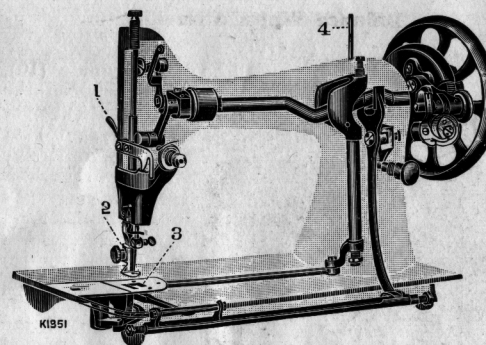

Fig. 4.
Tighten the balance wheel, and after placing a piece of material under the presser foot (2, Fig. 4) **turn the handle from you** with an easy and regular motion. Continue to do this until you are able to guide the material correctly with the left hand.
When familiar with the working movement, tighten the balance wheel by turning the stop motion screw from you, and place a piece of calico or cloth under the presser foot (2, Fig. 4). Lower the presser foot upon the material by means of the presser bar lifter (1, Fig. 4) and again work the machine, without it being threaded, until you have become accustomed to guiding the material.
**Skip Stitches.**—A bent or blunt-pointed needle is often the cause of this. See that the needle is accurately set (see page 6). Remove the throat plate, and, after seeing that the feed (3, Fig. 4) is clean and working freely, replace the throat plate.